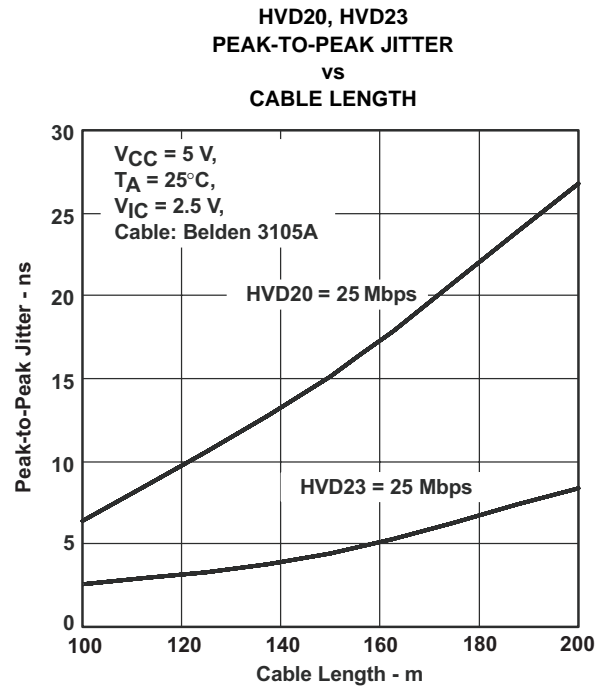
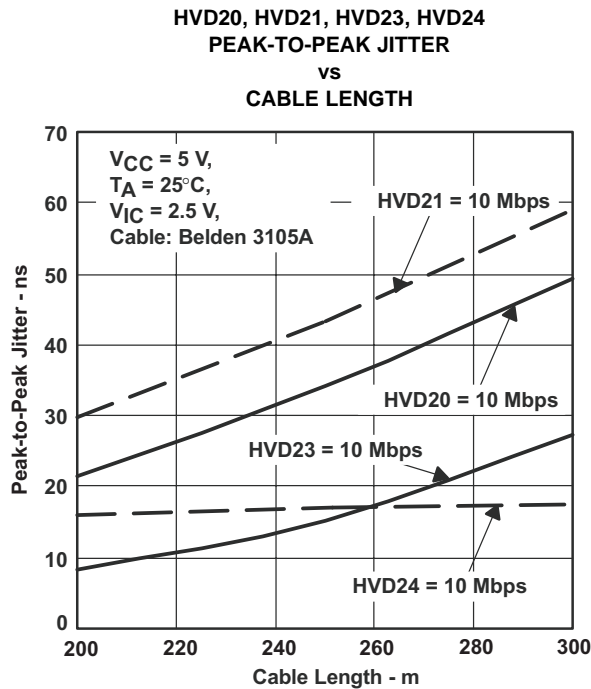
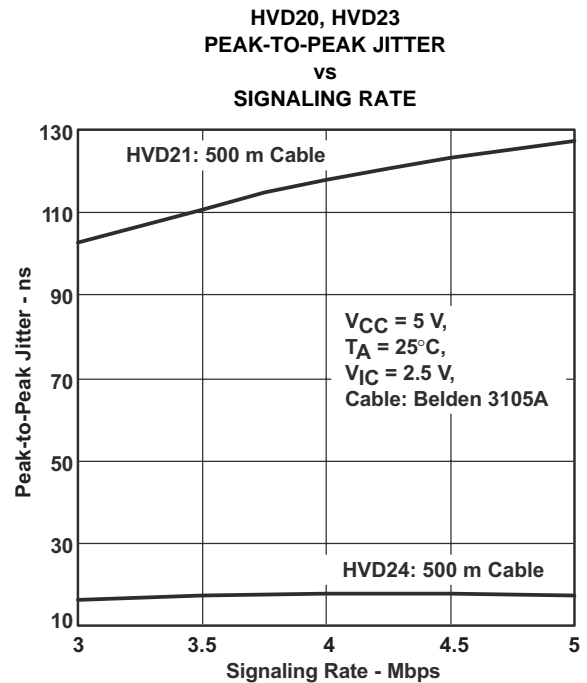

Figure 22.
Figure 23.
Figure 24.
- Added Figure 22, Figure 23, and Figure 24 to the TYPICAL CHARACTERISTICS 15